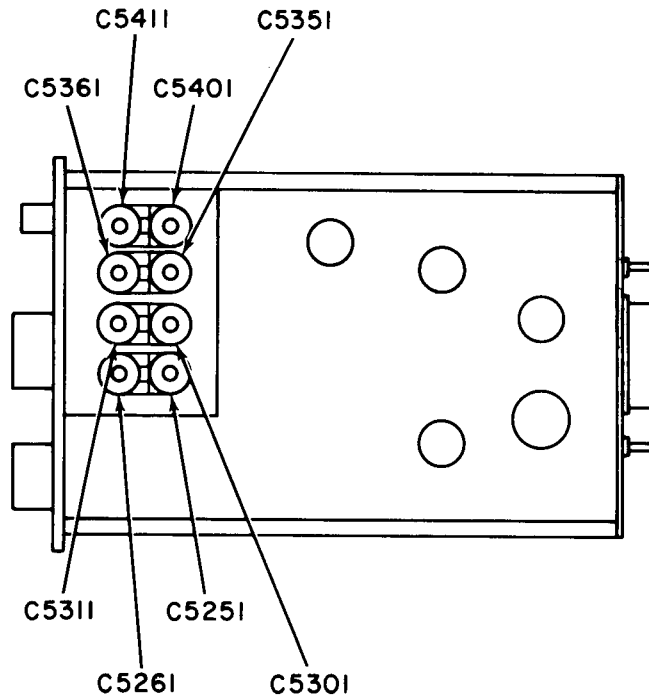

Figure 2. Plug-in - top view
2	C5261 (fig. 2) (R)
5 ¹	C5311 (fig. 2) (R)
10	C5361 (fig. 2) (R)
20	C5411 (fig. 2) (R)
2	C5251 (R) (fig. 2)
5 ¹	C5301 (R) (fig. 2)
10	C5351 (R) (fig. 2)
20	C5401 (R) (fig. 2)